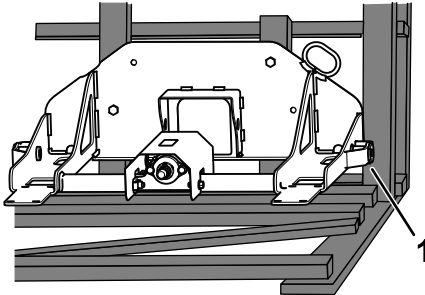

Figure 10
1. Remove the bolts securing the mounting plate assembly to the crate (Figure 10).